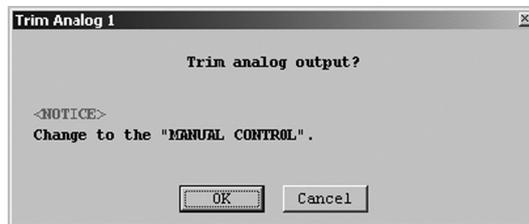

Fig.135
- ① Click the "Diag/Service (T)" menu, and then select and click "Trim Analog 1" from the "Trim Analog" drop-down list.
- ② A message box (Fig. 135) will be displayed. Click the "OK" button to adjust analog output 1.